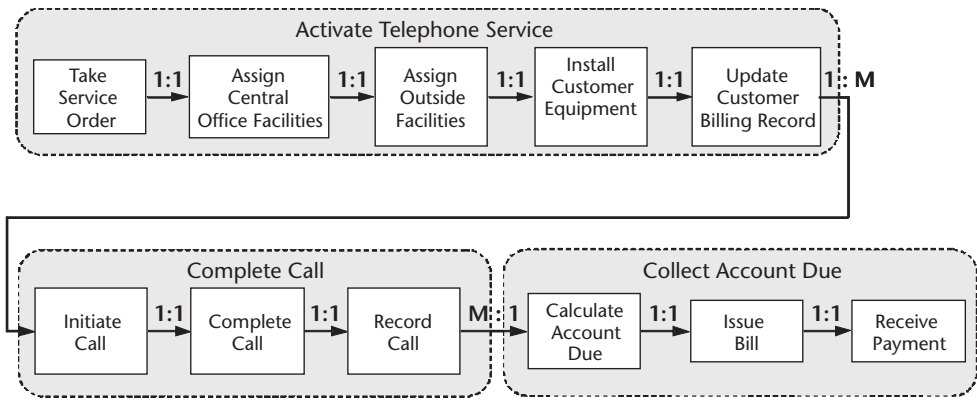

Figure 5.9 Identify business processes.
4. Name the business processes, per the guidelines coming up. Figure 5.9 shows the outcome.